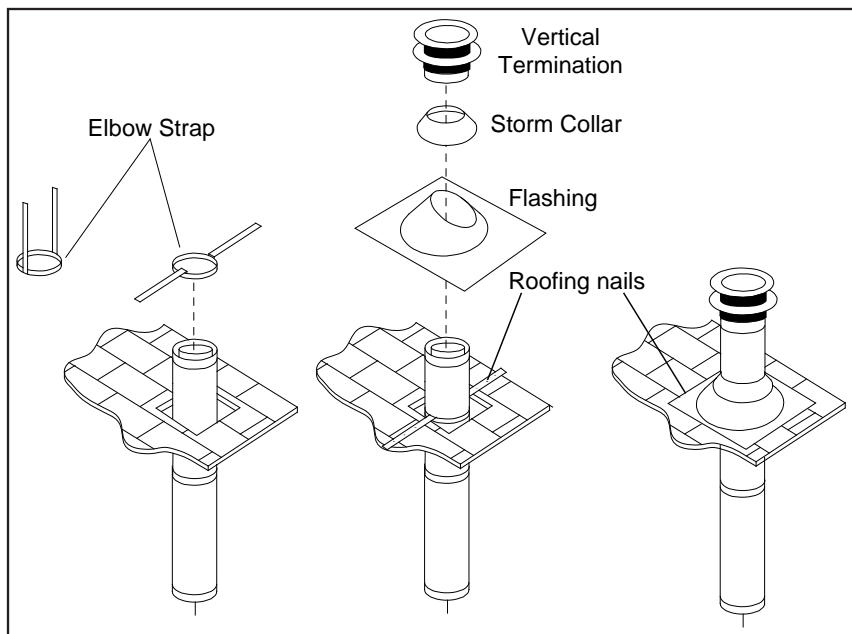

Figure 51. Vertical Vent Termination
- Step 3.** To install the Round Support Box/Wall Thimble in a flat ceiling, cut a **10 " (25.4 cm)** square hole in the ceiling, centered in the hole drilled in Step 2. Frame the hole as shown in Figure 51.
- Step 6.** Once the pipe sections have been joined, and run up through the hole in the roof, slip an elbow strap over the exposed sections, bend the support straps outwards, and push the elbow strap down to the roof level, as shown in Figure 51. Tighten the clamp around the pipe section. Use a level to make sure the pipe is truly vertical. With roofing nails, secure the support straps to the roof. Seal the nails holes heads with non-hardening mastic. Trim the excess length of the support straps that extend out beyond the edge of the flashing.
- Step 9.** Slip the storm collar over the pipe, and push it down to the top of the roof flashing as shown in Figure 51. Use the non-hardening sealant around the joint between the pipe and the storm collar.